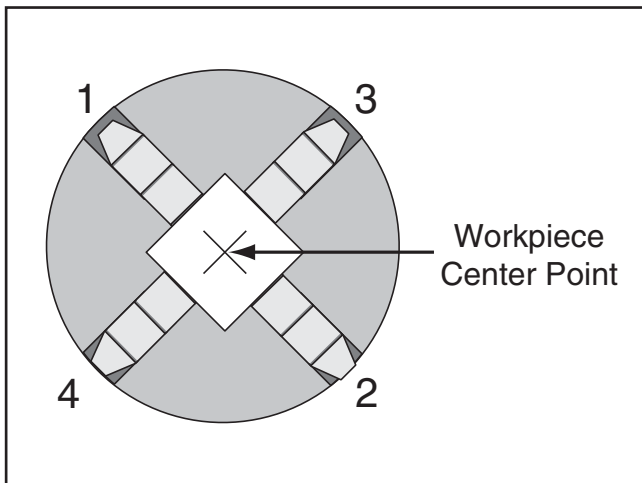

Figure 46. Jaw tightening sequence for the 4-jaw chuck.
5. Tighten each jaw in small increments. After you have adjusted the first jaw, continue tightening each jaw in an opposing sequence until the workpiece is firmly secured (see **Figure 46**).